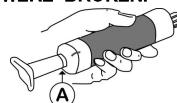

Fig.1
4. IF THE CONCENTRATION IS OVER THE FULL SCALE, THE HIGH CONCENTRATION OF HYDROGEN SULFIDE REMAINS IN THE ASPIRATING PUMP. BE CAREFUL NOT TO BREATHE THE REMAINING GAS. AFTER MEASUREMENT, THE REMAINING GAS IS PUSHED OUT FROM THE BOTTOM CASE OF THE PUMP (FROM A IN FIG.1) WHEN THE HANDLE IS PUSHED BACK AND PULLED. IN CASE OF THE ABOVE, PUSH BACK AND PULL THE HANDLE WITHOUT CONNECTING THE TUBE AT THE LOCAL EXHAUST VENTILATION DEVICE. REPEAT THIS OPERATION AT LEAST FIVE TIMES IN ORDER TO REMOVE THE REMAINING GAS.